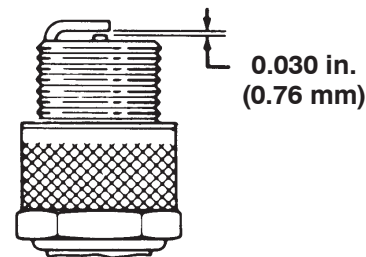

Figure 19
4. Set the air gap between the center and side of the electrodes at 0.030 in. (0.76 mm) (Fig. 19). Install the correctly gapped spark plug with gasket seal, and tighten the plug to 200 in.-lb. (23 N·m). If a torque wrench is not used, tighten the plug firmly.